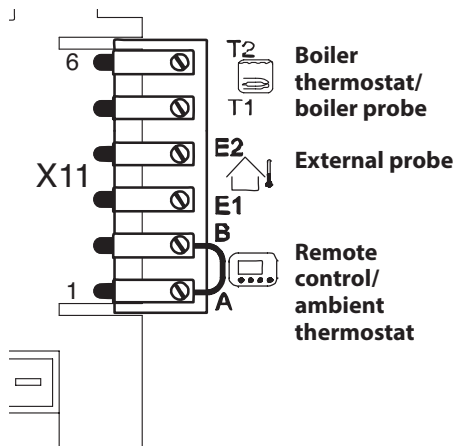

Figure 5.23
Use the terminals indicated in (Figure 5.23) to connect the external probe.
Use the terminals indicated in (Figure 5.23) to connect the remote control.
**The electric jumper between "A and B" must be removed (Figure 5.23).**